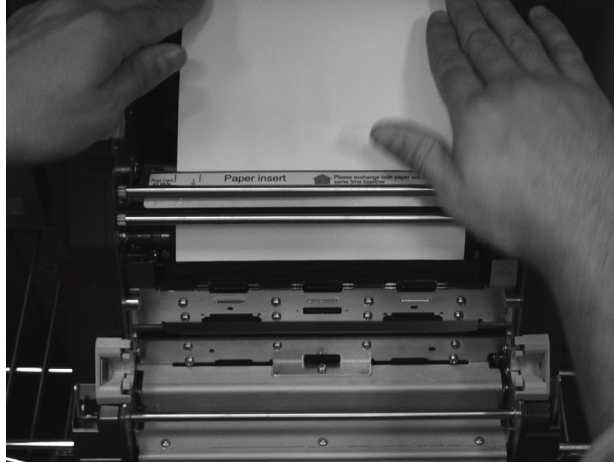

Figure 11. Unthreading the Printer Paper
4. Once the ribbon is removed, gently pull the paper to unwind it from the paper path (see Figure 11).